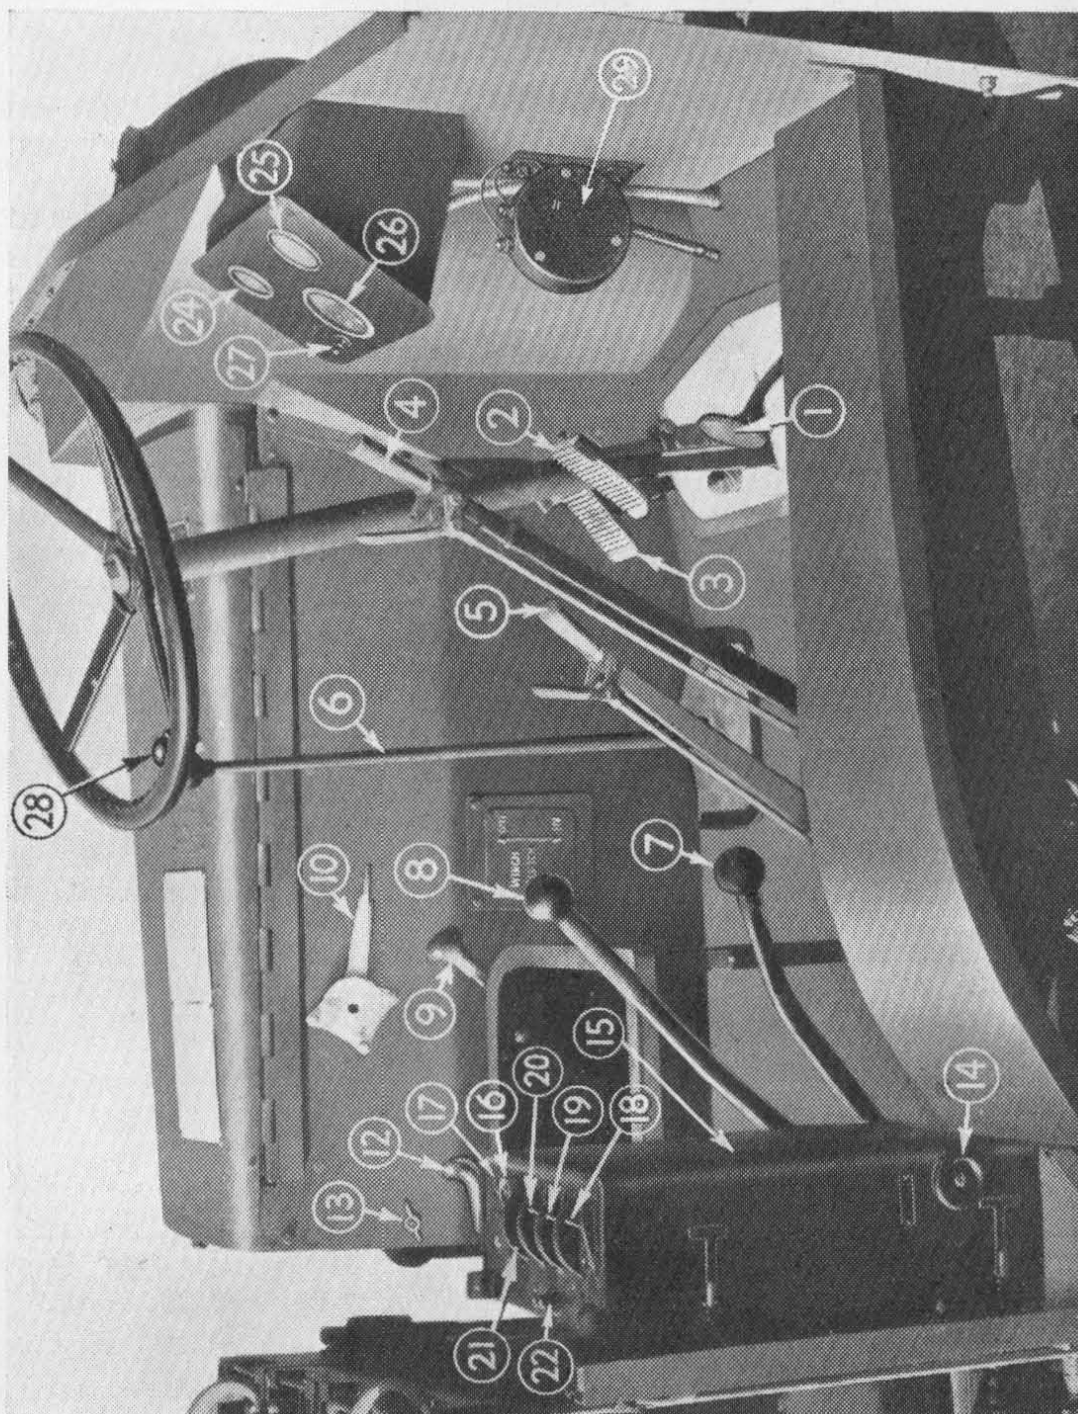

Fig. 2. Driver's Controls.
(The index numbers correspond to those in Fig. 2, unless otherwise stated).
15. Electrical Control Unit. (*Units of C.A.V. and Simms' manufacture are fitted, the controls of which are dissimilar. A C.A.V. unit is shown in Fig. 2, while Fig. 40 on page 58, shows a Simms' unit.*)
Although illustrated in Fig. 2, this controller is only fitted to the front dash on vehicles having air pressure braking. On other vehicles it is mounted in the chassis frame adjacent to the Servo Motor (*see Fig. 31*).
- (i) Close the battery cut-out switch (14), *Fig. 2*.
- (ii) Move the starting switch (21) to the " on " position.
- (iv) Press the starter button (16) firmly.